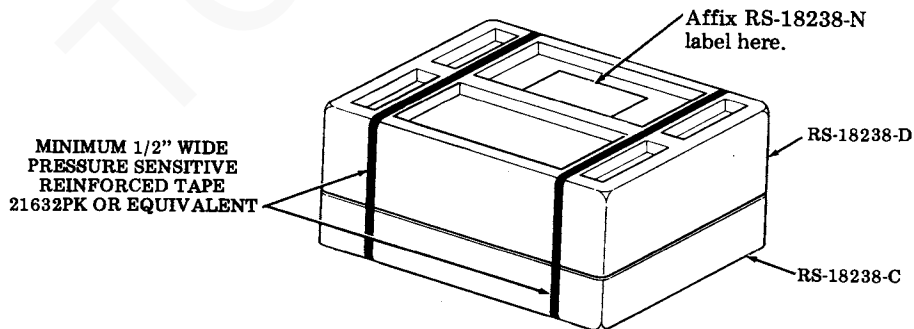

Fig. 12
- Step 3. Position cover and secure with two bands of pressure sensitive reinforced tape. See Fig. 12.